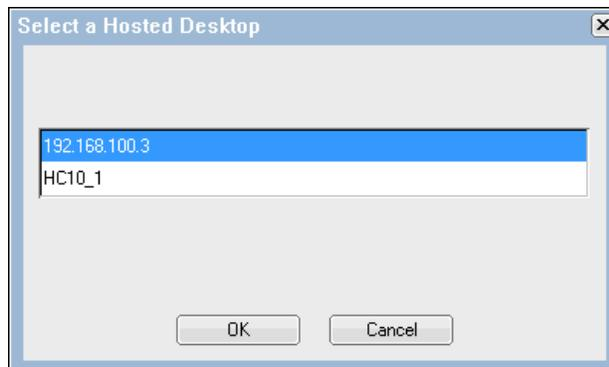

Figure 5-34 Selecting an available HC10 from a list
2. A list of available HC10s to which you can connect displays (unless there is only one, in which case it connects automatically). Click the HC10 to which you want to connect and click **OK**. See Figure 5-34.